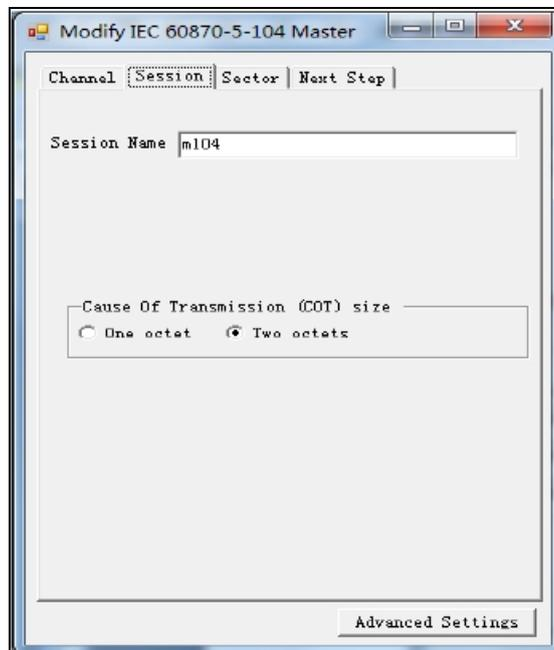

Figure 2-26 104 master station setting 2
2) Set **101 parameters > 101 to 104 protocol > 104 COT size** to 2, which must be the same as that on the 104 master station, as shown in Figure 2-26.